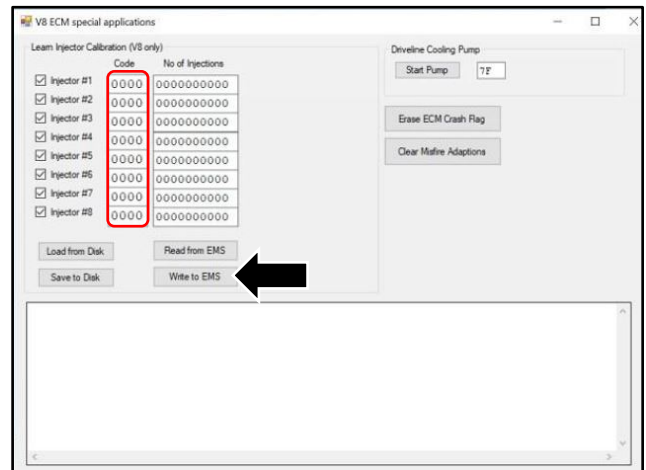

Figure 14
24. If the injector codes from step 16 are shown, select "Write to EMS" (refer to Figure 14).